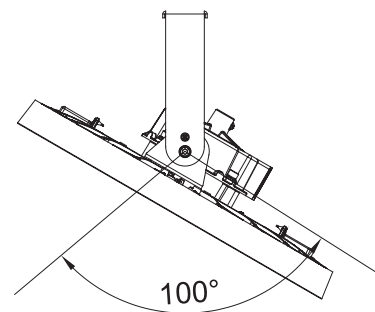

Figure 9
5. Adjust the fixture up to 50° left or right by loosening and retightening the bracket screws. (Figure 9)